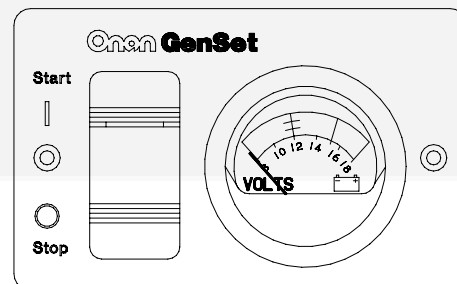

FIGURE 6. START/STOP & DC VOLTMETER
- Remote switch with indicator lamp and DC voltmeter (Figure 6).